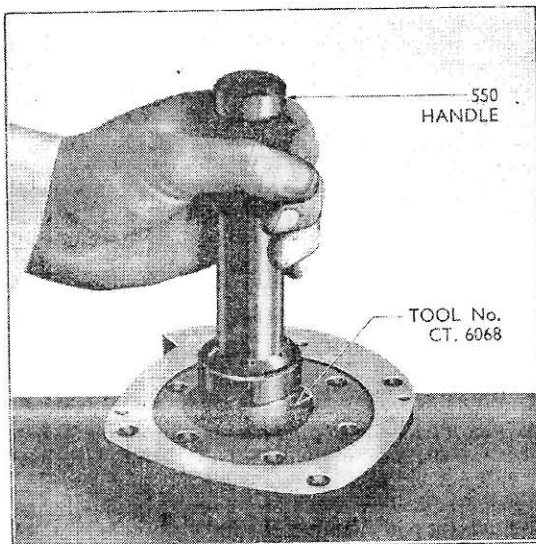

Fig. 7
1. Refit the front oil seal cover plate then install the oil seal in the front cover, using adaptor CT.6068, with 550 handle (see Fig. 7), with the lip of the seal towards the inside.